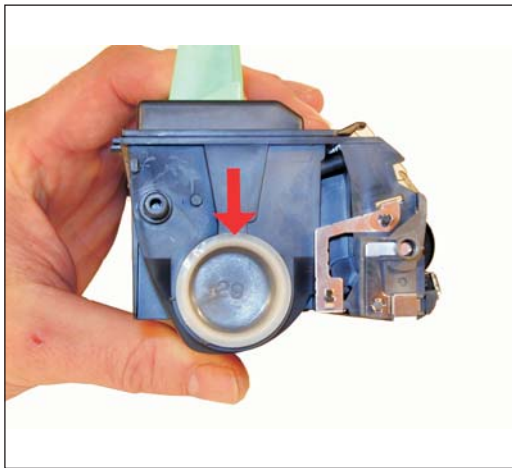

Figure 3
2) Remove the fill plug on the left side of the cartridge. Dump out the remaining toner. Lightly vacuum or blow off the outside of the housing and the developer roller. See Figure 3